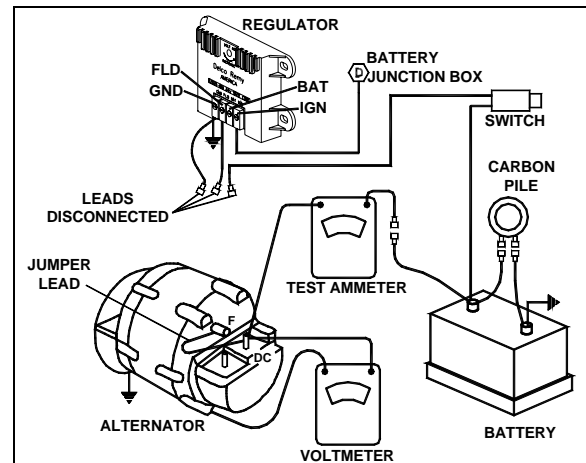

FIGURE 36: REGULATOR VOLTAGE TEST (UNDERCHARGED BATTERY) 06417
6. See figure 36 for wiring connections.